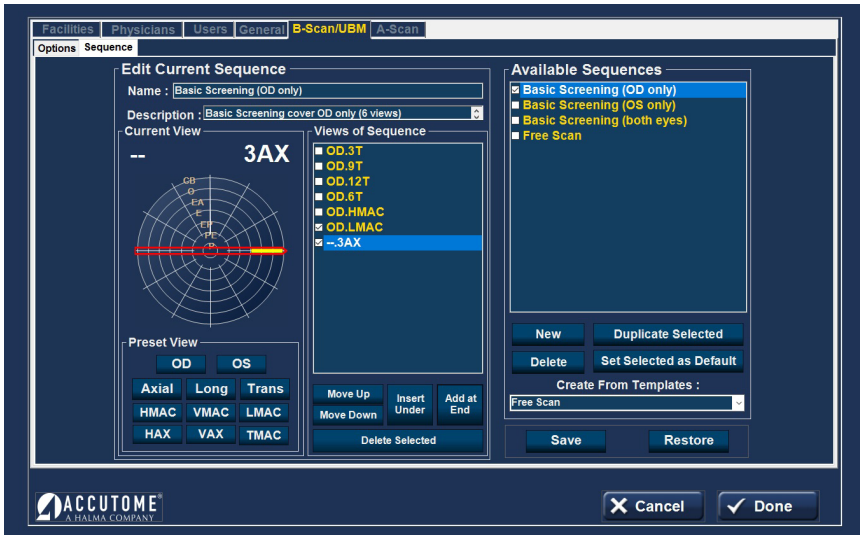

Figure 7.5 - Setup: B-Scan/UBM – Sequence – Change Probe Orientation
5. When you arrive at the appropriate position for the probe in the newly added sequence scan, release the position indicator. The new position will be reflected in the label for the new sequence scan as shown in the figure 7.5. The indicator stopped at 3:00, and the label for the scan was changed from OD.Scan to OD.3AX.
A copy of the sequence will be displayed in the list of Available Sequences with “[1]” beside the name, as shown in figure 7.5. You may then change any information for the new sequence, as necessary. If you make more than one copy, the number will increase with each copy.